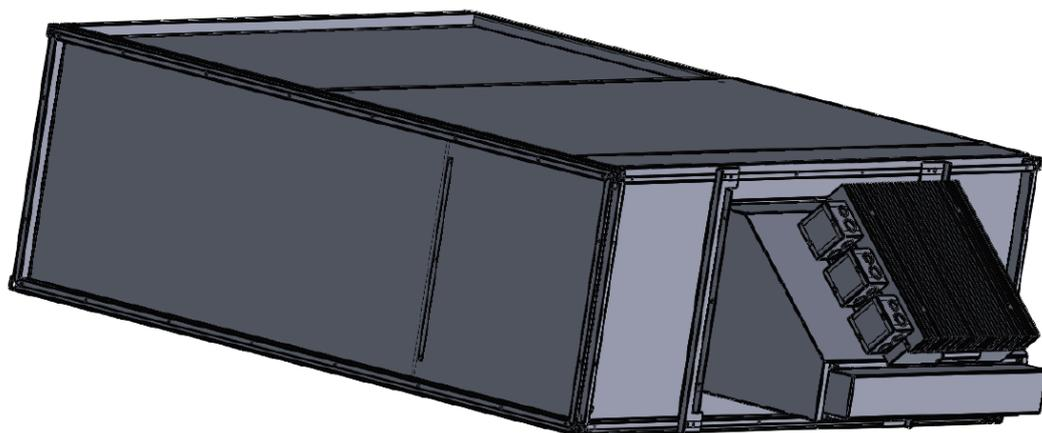

Fig. 42 *Installation sequence - Step 14B*
- A. Open the lid of the junction box with the “POWER LINE” label (Figure 42).
- F. Repeat these operations on the junction box with the “DALI LINE” label for the DALI connections (Figure 42).